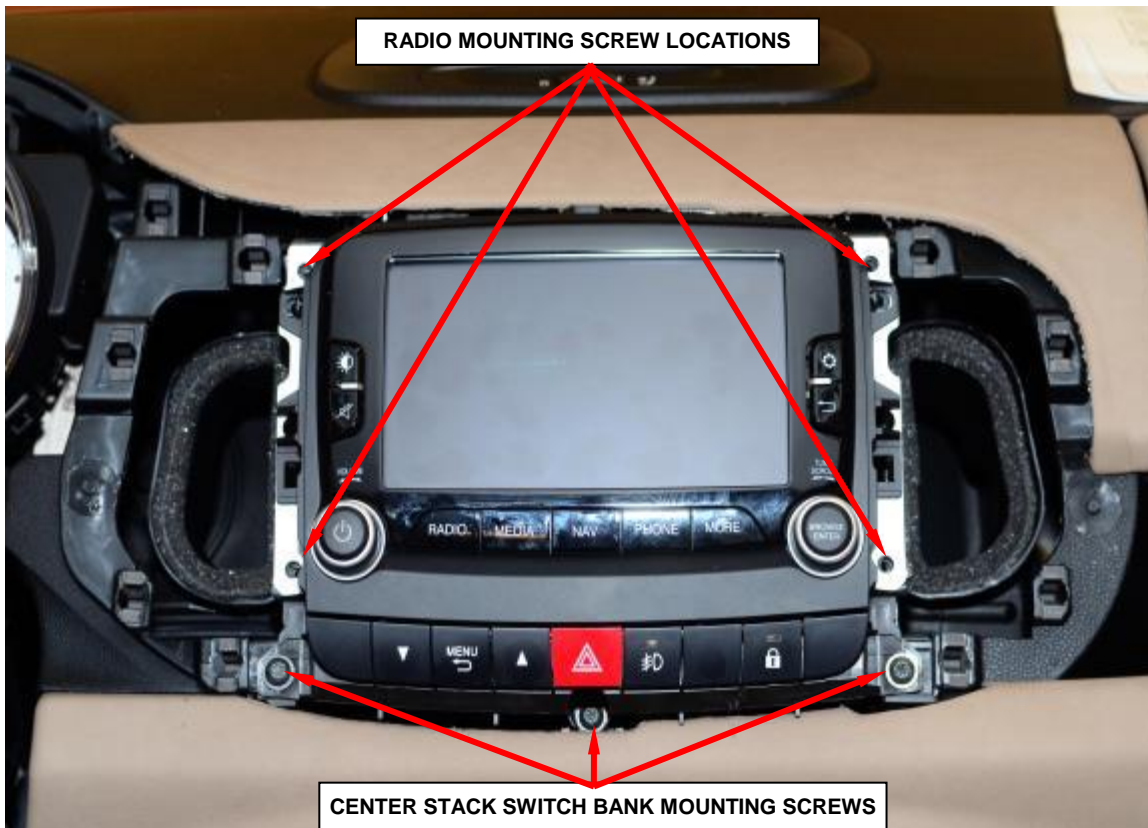

Figure 12 - Radio - Radio
- a. Remove and save the four radio mounting screws and the three center stack switch bank mounting screws (Figure 12).
- b. Disconnect the center stack switch bank electrical connector and remove and save the center stack switch bank (Figure 12).